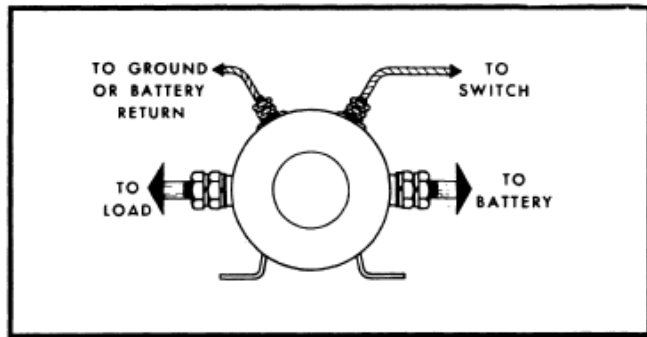
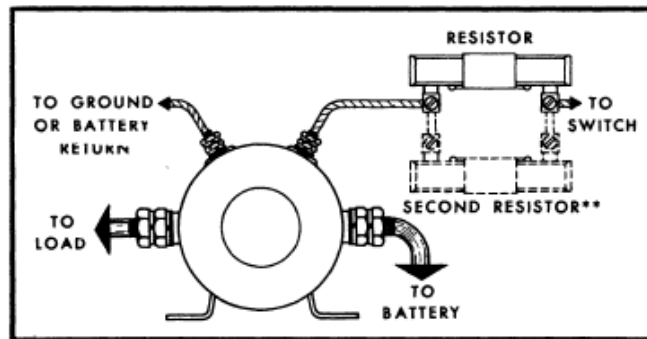

Figure 3
Figure 4
4. Make connections as shown in Figure 3 for 12-volt system, or as shown in Figure 4 for 24-, 30- or 32-volt system.